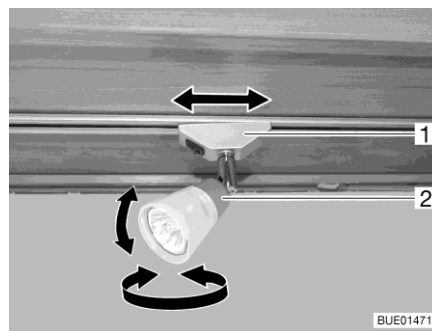

Fig. 29 Spotlight (Campeo)
**Turning spotlight:** ■ Turn housing (Fig. 29,2) of the spotlight to the desired direction. The housing can be turned in following directions:
**Shifting spotlight:** ■ Turn holder (Fig. 29,1) through approx. 45°. ■ Shift spotlight along the rail system to the desired position.
**Removing spotlight:** ■ Turn holder (Fig. 29,1) through 90°. ■ Remove spotlight from rail.